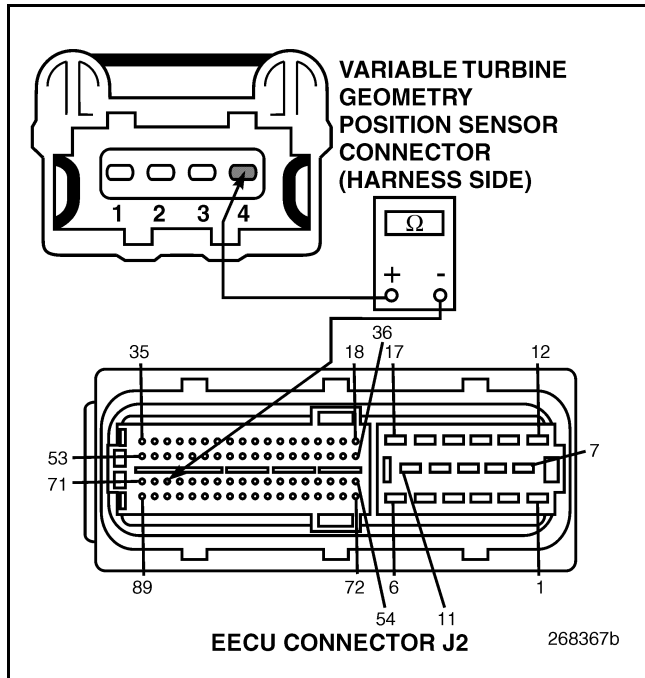

Figure 493
4. Check for continuity between VTG Position Sensor harness connector pin 4 (ground line) and EECU harness connector J2 pin 69 (see Figure 493).